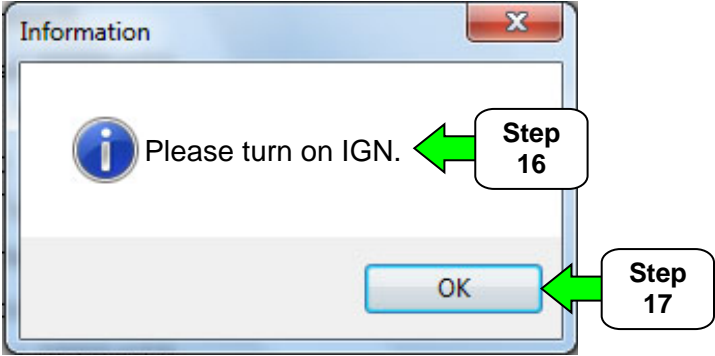

Figure 10
- 15. After the countdown completes, the screen in Figure 10 displays.